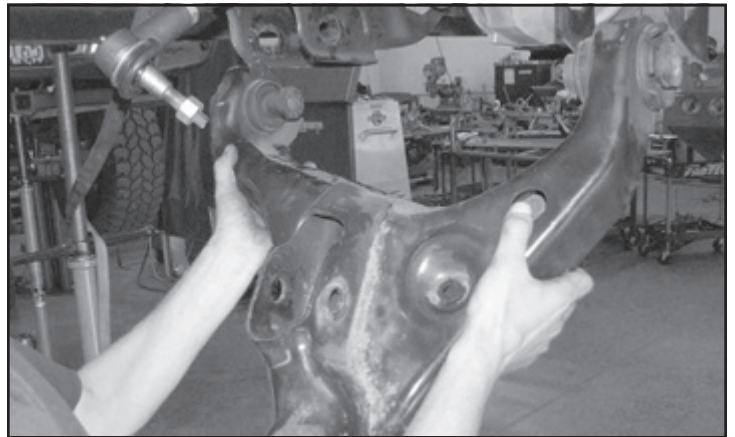

FIGURE 7 - STEP 12
12. Remove the lower control arm bolts from the frame pivots and remove the lower control arm from the truck. Save hardware and lower control arm. **SEE FIGURE 7**